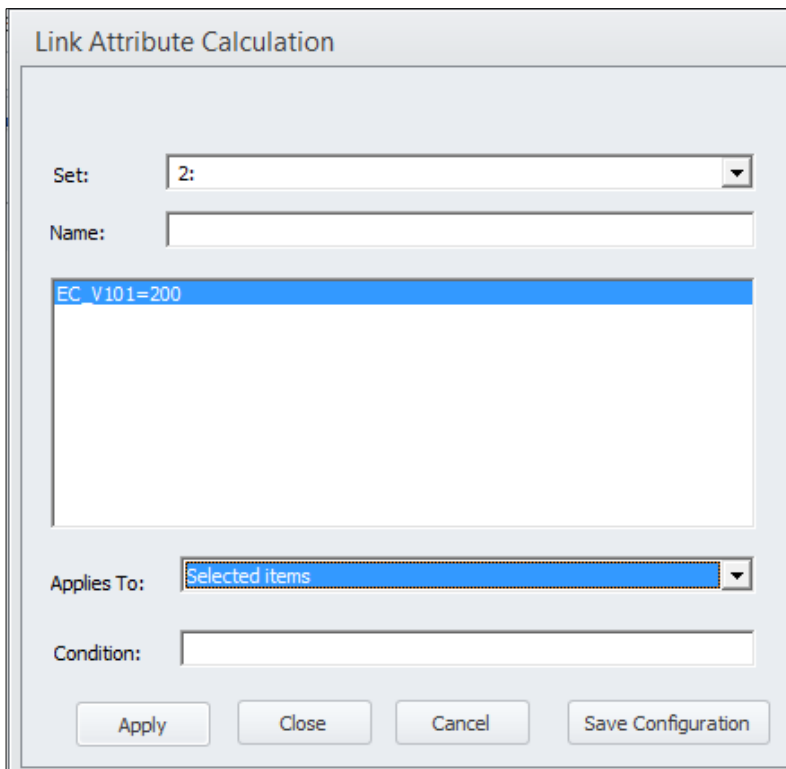

Figure 72 The Link Attribute Calculation window.
- 8) Select Link -> Compute on the main toolbar to access the Link Attribute Calculation window, see Figure 72.
- 9) Fill in the fields. To insert edits in the main field in the middle, right click and select "Insert". A window, "Insert Equation", pops up – right-click in the blank field and select the attribute the user wants to edit, e.g., EC_V101 as in Figure 72, and type in "=" followed by the value. More attributes can be edited by repeating the procedure. In the "Applies To:" drop down menu, select "Selected items".